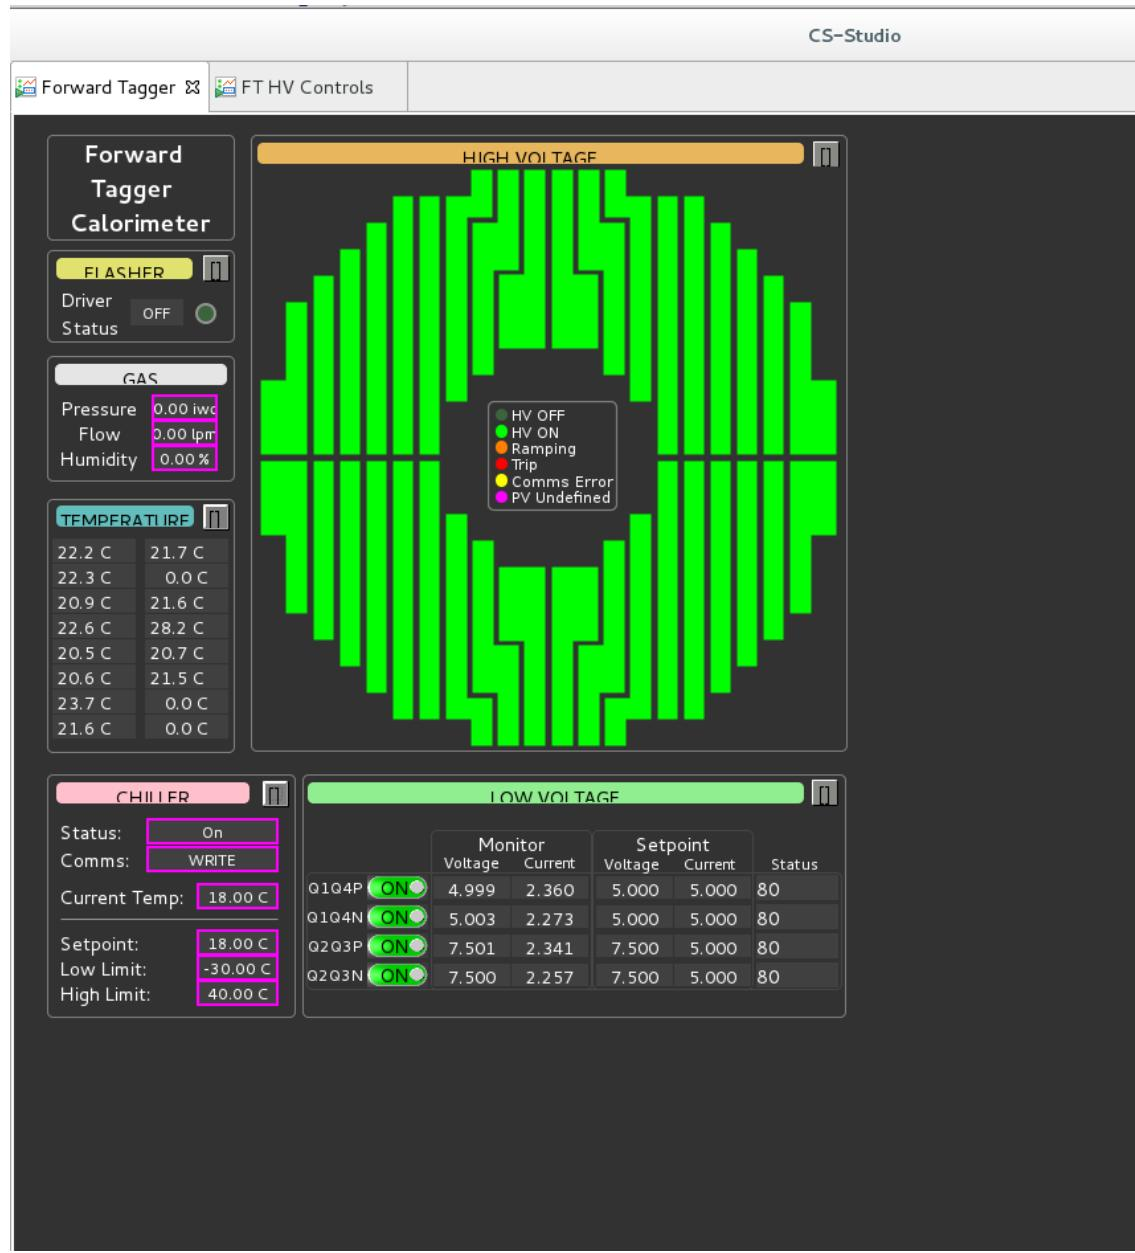

Figure 5: The primary EPICS screen needed for shift workers to monitor FT-Cal.
Sixteen temperature sensors are placed in the FT-Cal enclosure and should be monitored through FT-Cal's main EPICS screen. Figure 6 shows the expert screen accessible via the grey square button in the top right of the temperature section of the main FT-Cal screen. Temperatures at different locations in the calorimeter as shown in Figure 8 are measured by the instruments shown in Figure 9. Variations of one degree C or more during a shift should be reported to FT-Cal expert on call and noted in the log book. The strip charts 7 are accessible from the two buttons in the temperature section of Figure 5 (and also the main CLAS12_EPICS screen in Figure 4)¹.
LV should be monitored using its portion of the main FT-Cal EPICS screen (shown in Figure 5). The currents driven by the four channels should be similar. Call the FT-Cal expert if this appears not to be ON or shows an abnormal current for any of the channels. *Normal current is between 2.2 and 2.4 A for all channels.*
The high voltage supply of the FT-Cal is controlled and monitored using the main FT-Cal EPICS window (Figure 5). It has buttons to ramp up and down the entire calorimeter's high voltages, accessible via the gray square button on the top right of the HV section of the main GUI, open windows for individual channel control (Figure 13), and open more detailed expert views.
HV problems, in particular trips, are indicated by a red group in the main FT-Cal EPICS GUI (Figure 5). HV trips will also be announced by the alarm handler. During normal operations with HV ON, there should be no red groups in Figure 5 and no ECAL HV alarms. In case of an HV trip, or a red region in Figure 5:
- Try to reenable the tripped HV group by turning it back on in the EPICS HV control screen (Figure 13) accessed via the **Controls** button in the menu accessible via the gray square button of the HV section the main FT-Cal EPICS screen (Figure 5).